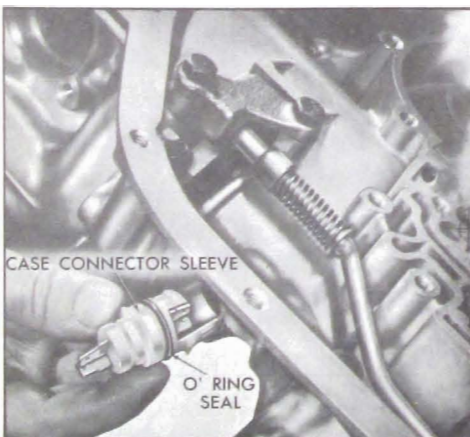

Figure 5-735
12. Install the connector with the lock tabs facing into the case. See Figure 5-735.